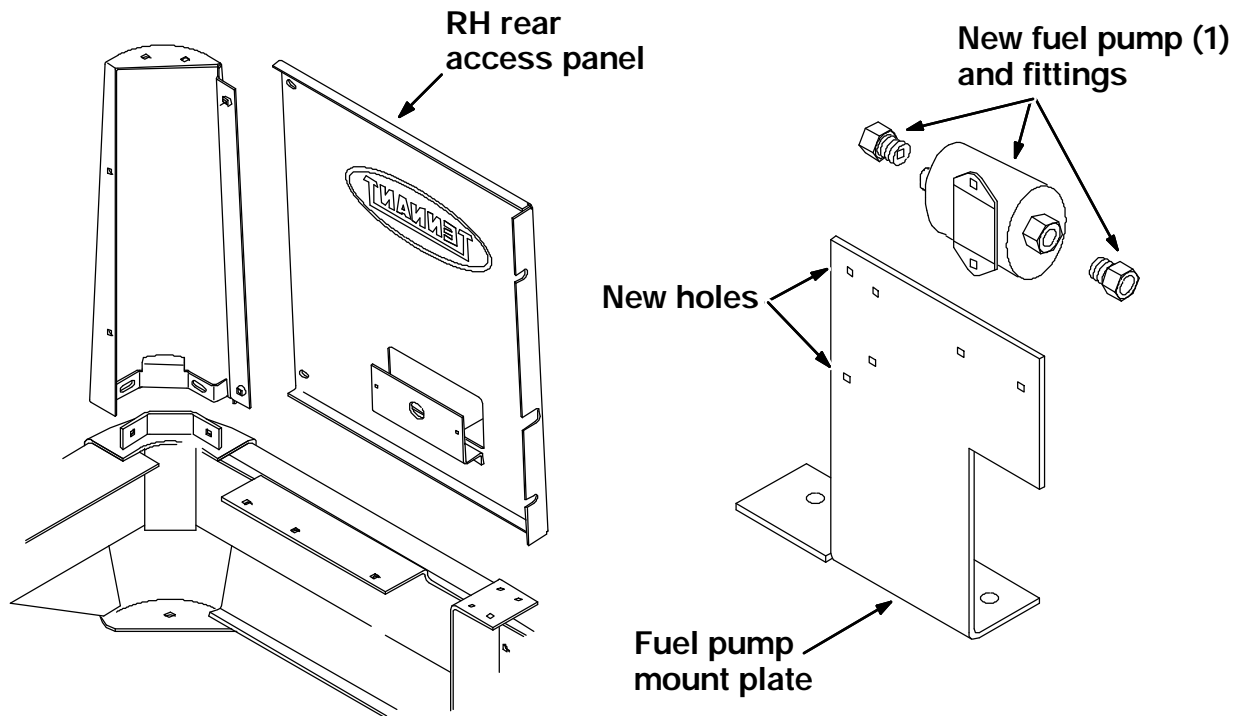

FIG. 3 - 8400 Fuel Pump Installation
3. For better access to the old fuel pump--remove the RH rear access panel from the machine. (Refer to Fig. 3)
7. Reinstall the RH rear access panel. (Refer to Fig. 3)